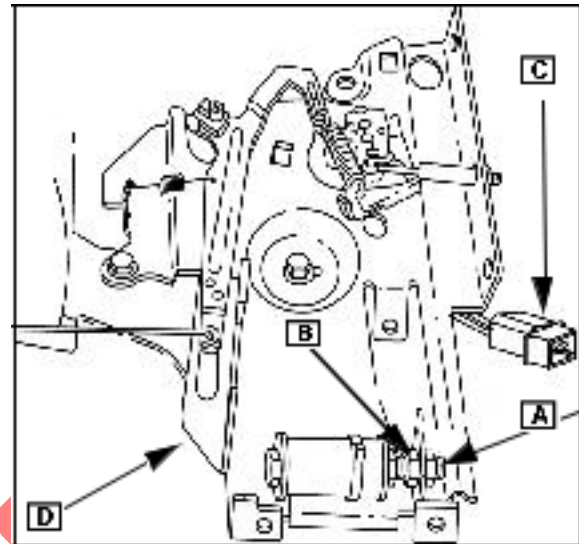

Fig. 43
Loosen both adjusting nuts ([A] and [B] Fig. 43). Then, unscrew nut (A) until flush with end of bolt.
With the engine running, apply 12VDC to connector (C). Extended governor lever ([D] Fig. 43) will be pulled against head of idle bolt.
Hold nut (A) and idle down control in position. Tighten nut ([B] Fig. 43.)